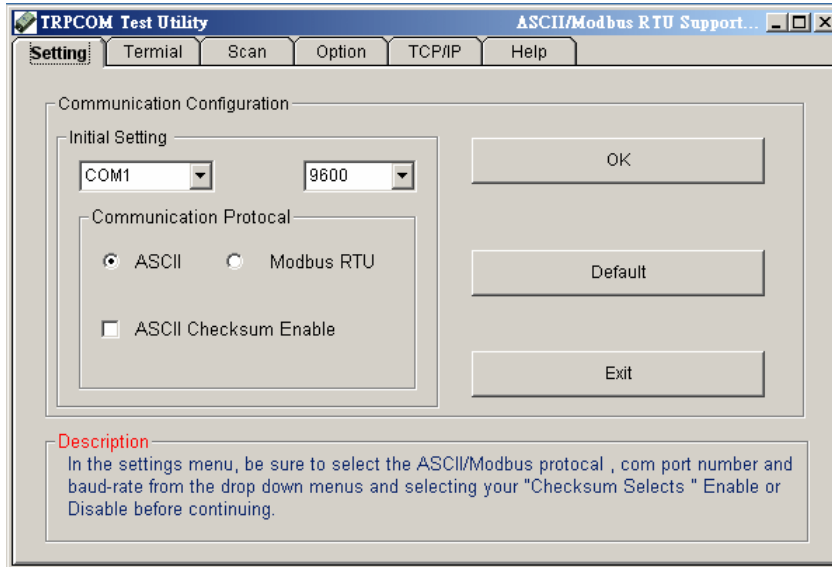

Figure 1
- 1.The "Setting " function is for user to initiate the software to set the Com Port from 1 to 8 and setting the Baud-Rate from 1200 to 19200,Checksum Enable or Disable. See Figure 1